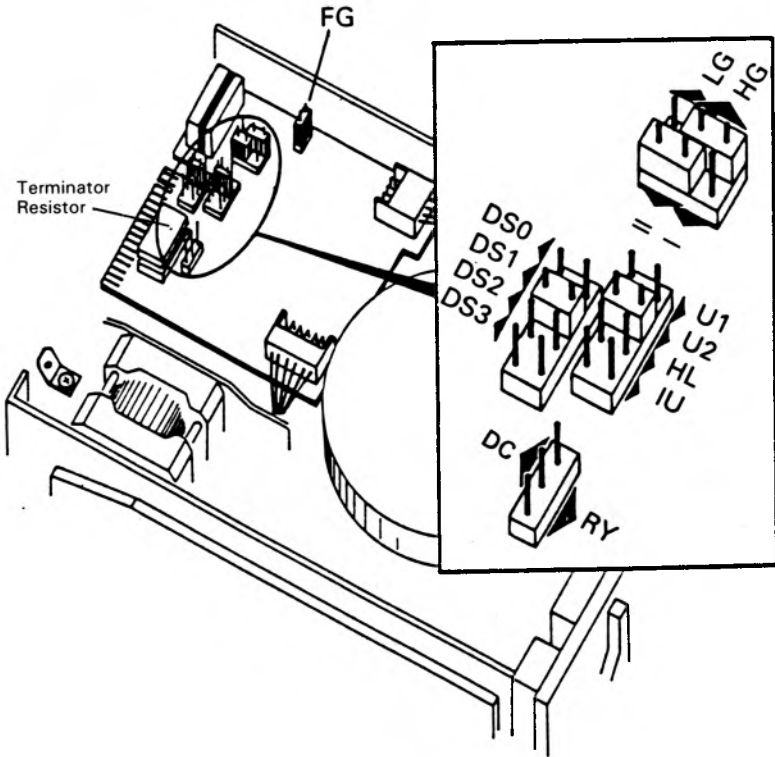

Figure 1
**2** The drive must be configured to match your system requirements. The following table lists the possible drive configurations and Figure 1 shows the locations of the various straps etc. Refer to your Owner's Manual for the strapping for your system.